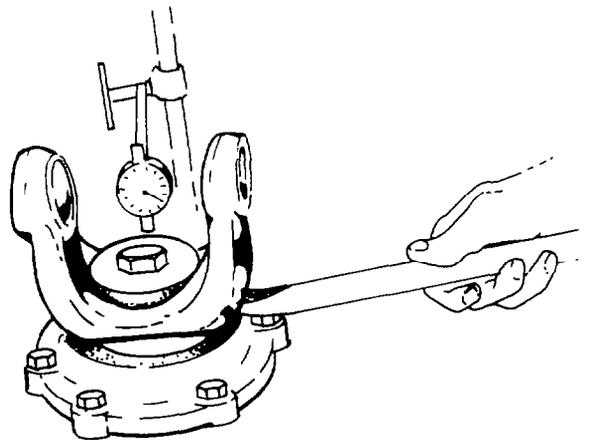

Fig. 267 — Measuring Front Output Shaft End-Play
- al. At this point check the front output shaft end-play. Using a dial indicator, check for 0.178 – 0.254 mm (0.007 – 0.010 in.) bearing end-play. If the end-play is not within these limits, add a shim to increase or remove a shim to decrease the end-play (see fig. 267).